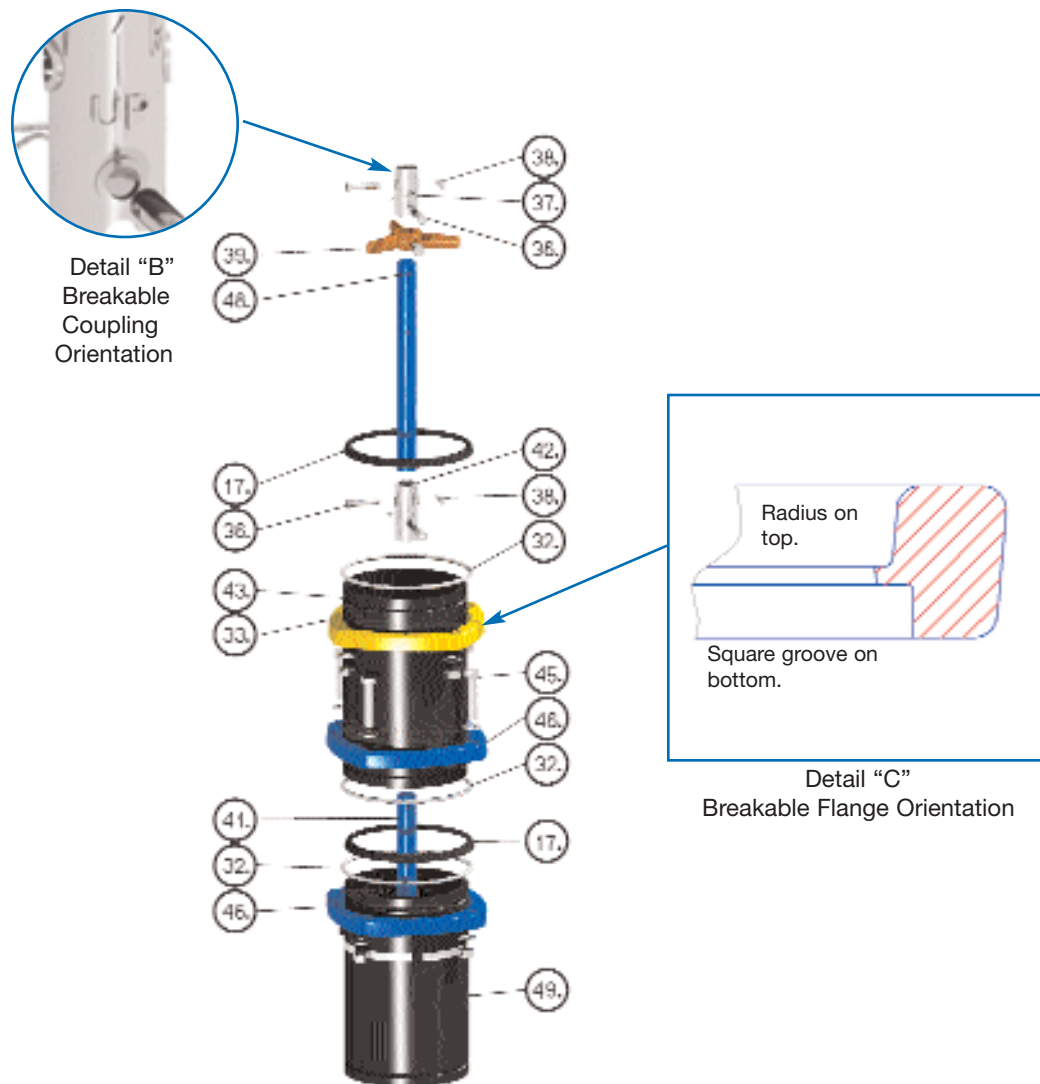

Fig.10
5. Slide a new Breakable Flange (#33) over the Lower Barrel (#49). **WARNING:** Be sure the Breakable Flange(#33) is "right side up" (See Fig.10) . Slide a new Lock Ring (#32) into the groove on the Lower Barrel.
ADDING EXTENSION KITS (Figs.10,11)